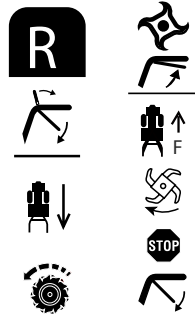
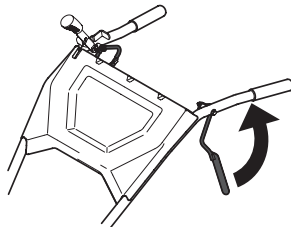
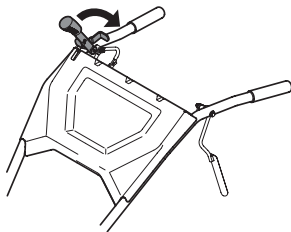

Figure 16
Figure 17
Figure 19
- a. Pull the bail up and hold it against the handlebars. See Figure 16 and Figure 17.
- b. Lift the handlebars until the tines are slightly off the ground and then pull the Reverse Control Knob out to engage the reverse motion. See Figure 16 and Figure 19.